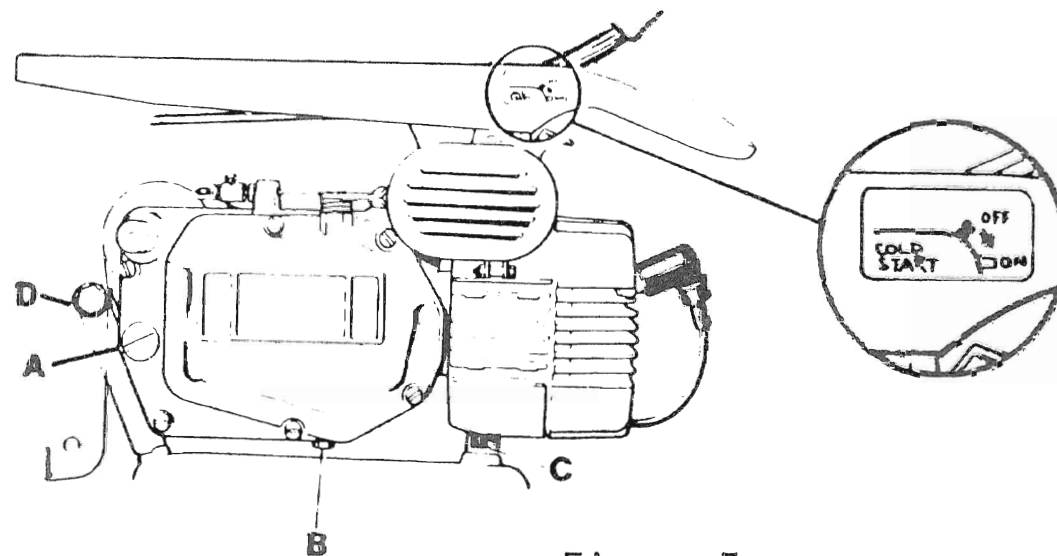

Figure 7
A cold start lever is provided on the carburetor (Fig. 7). To operate, move downward in the direction of the arrow. Pedal to start engine (see instruction on page 17). As soon as the engine is running and warmed up sufficiently to run smoothly, the lever must be returned to RUN. This is achieved by momentarily opening the throttle (turn twistgrip towards rider) and the cold start lever will disengage. Note: Do not disengage by hand or damage may occur.
The oil level plug (A), Fig. 7 serves also as the filler plug. To check the level, remove this plug. Oil should appear at the level hole. If low, oil should be added through the level plug hole, with the Moped resting on its stand, until oil just starts to overflow from the hole. Tighten the plug.
The transmission requires oil as listed on page 23. The dipstick (A) Fig. 7 serves also as the filler plug. To check the level, remove the dipstick.
The top mark on the dipstick is the level mark used on initial fill or when refilling, after completely draining the gearbox through the drain plug, (B), Fig 7, in the underside of the transmission case. After a short period of running, the oil level will settle from the higher to the lower mark. Note, all dipstick readings are taken after the dipstick has been screwed down.